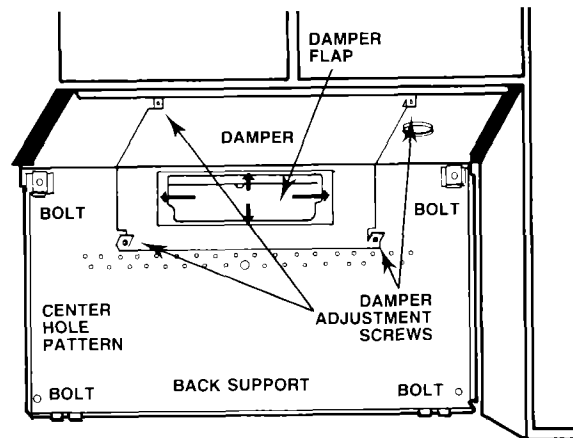

Figure 21
2. Lift back support into place. Secure to wall with four (4) 1/4" x 1-1/2" bolts in each corner of the back support. (See figure 21.)
4. Rotate damper and damper support so damper faces the back vent opening. Center and resecure with four (4) screws. (See figure 21.)